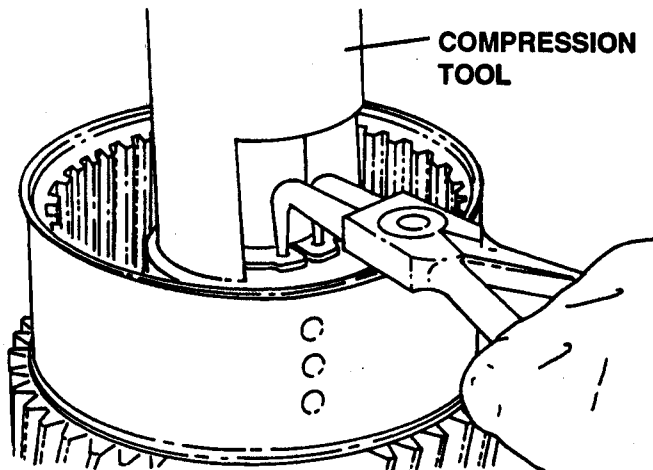

Figure 42.
Compress spring (71) and secure with circlip (73). See Figure 42.